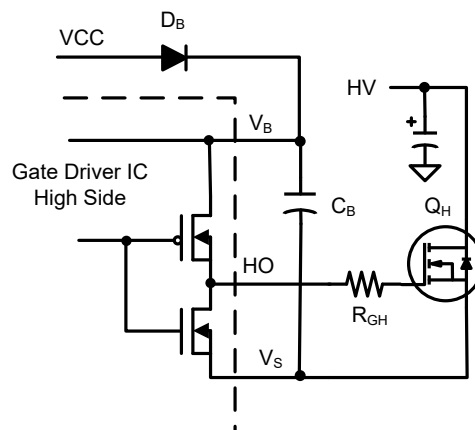

Figure 29. TF2106M high side in bootstrap operation
The supply for the TF 2106M High Side is provided by the bootstrap capacitor C_B (see fig 29). In the half -bridge configuration, V_S swings from 0V to V_{HV} depending on the PWM input of the IC. When V_S is 0 V, V_{BS} will go below V_{CC} and V_{CC} will charge C_B . When HO goes high , V_S swings to V_{HV} , and V_{BS} remains at V_{CC} minus a diode drop (DB) due to the voltage on C_B . This is the supply for the high side gate driver and allows the gate driver to function with the floating well (V_S) at the high voltage.